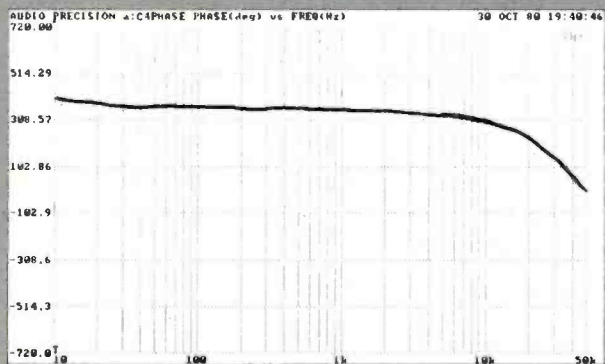

Figure 4B. Phase response of Telcom c4 system, no ATR. (Note similarities to Figure 2B, Dolby A-type system. Both are four-band systems.)
**Telcom**—Telcom c4 is an example of the new generation of noise-reduction systems, even though it's almost 15 years old. As shown in Figure 4A, the unit's frequency response is well within acceptable limits (Again, note the expanded scale.) with a sharp high-end roll-off that occurs above 20kHz. (The unit is 2dB down at 25kHz.) The unit's phase response (See Figure 4B) measures the best of all units tested. This